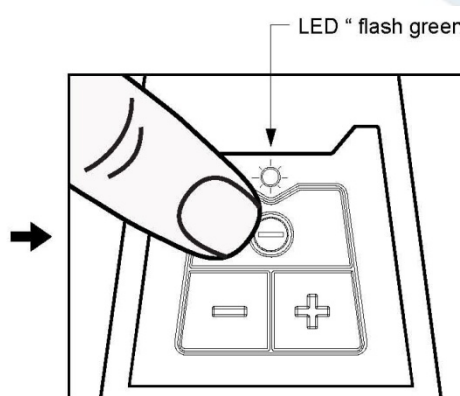

figure 2
2. Press the power on/off button " Θ " on the button plate to switch on the sander. The LED indicator shows " flash green " color after sander being switched on. - see figure 2.